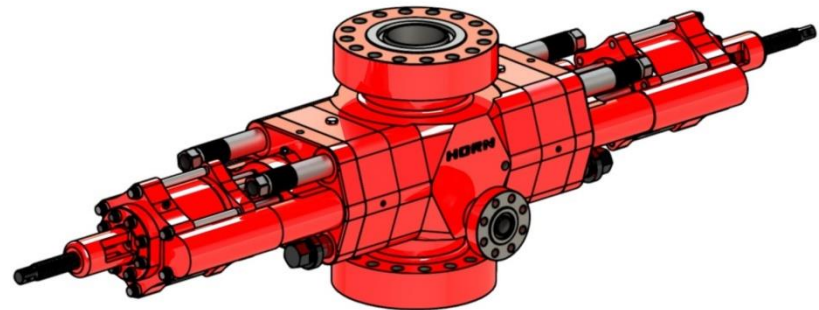

Figure 26: Guide Rods Installed
3. Install guide rods into the bonnet bolt holes. (figure 26)